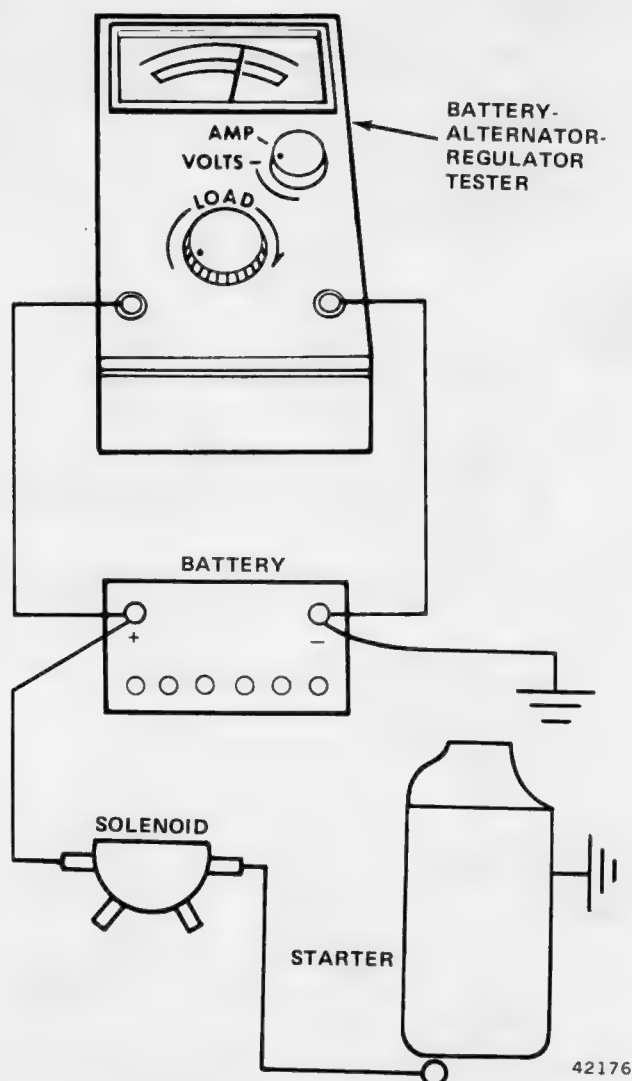

Fig. 1F-4 Starter Motor Current Draw Test
(1) Before performing current draw test, be sure battery is fully charged as described in Chapter 1D—Batteries.
(2) Disconnect and ground ignition coil secondary wire.
(3) Connect remote control starter switch between positive battery terminal and S-terminal of starter solenoid.
(4) Connect battery-starter tester leads as shown in figure 1F-4. Operate remote control starter switch and read voltage indicated on voltmeter while starter is cranking engine.
(5) Turn remote control starter switch OFF.
(6) Turn load control knob toward INCREASE (clockwise) until voltmeter reading is exactly same as it was when starter was cranking engine.